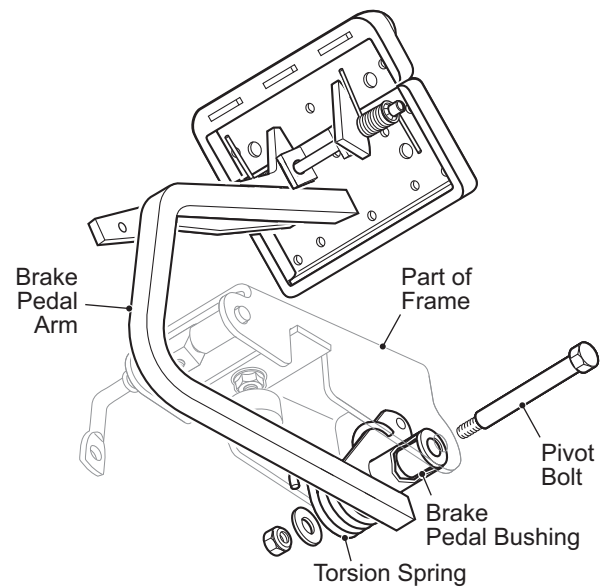

Fig. 7 Brake Pedal Inspection
- If the pedal does not return fully or is sluggish, the brake pedal bushings and pivot bolt should be inspected (Ref Fig. 7).